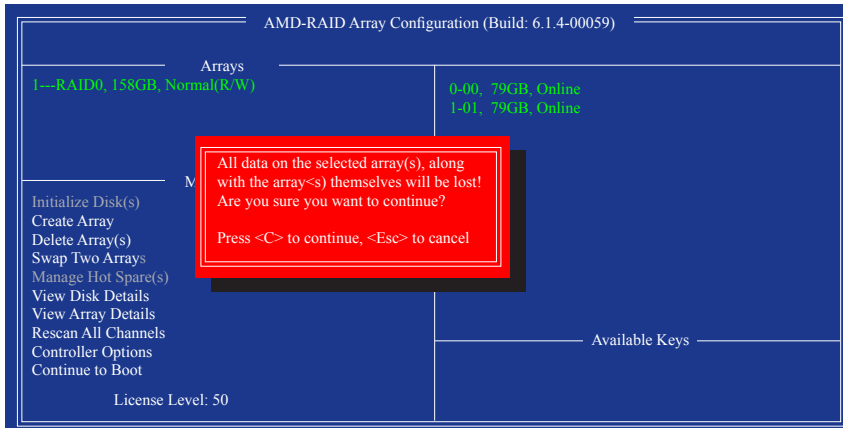

Figure 14
3. When prompted to confirm (Figure 14), press <C> to continue the deletion or <Esc> to cancel.